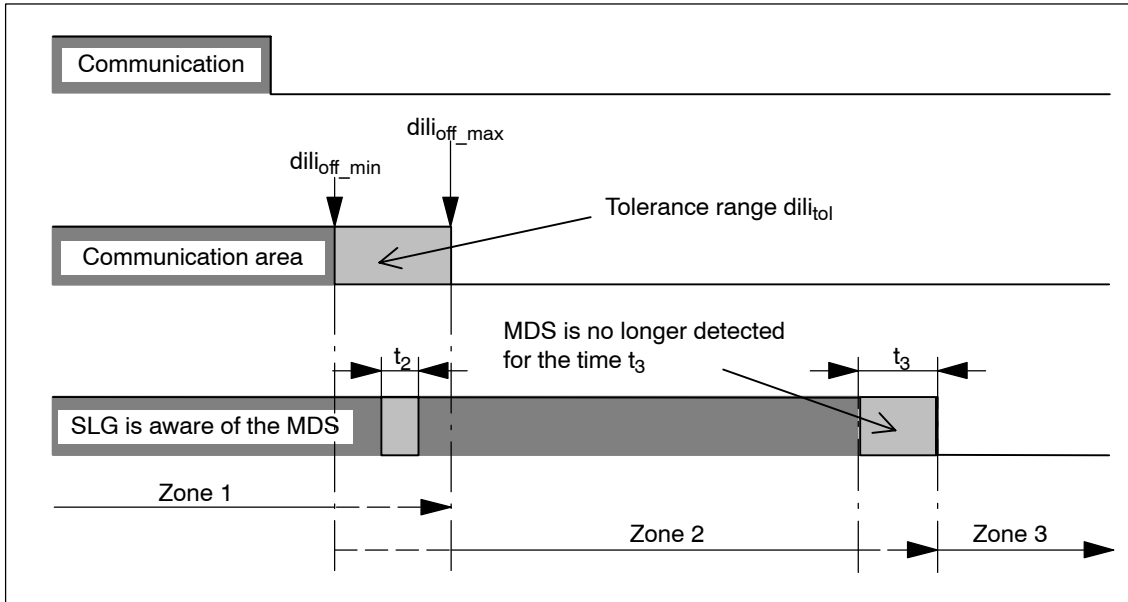

Figure 3-8 Exit from zone 1 (after the range limit is crossed)
- a) The MDS exits the SLG field after it crosses the range limit. Communication is terminated before the range limit is reached. This means that when the MDS exits the SLG's field the range limit is smaller than the field (see Figure 3-8).